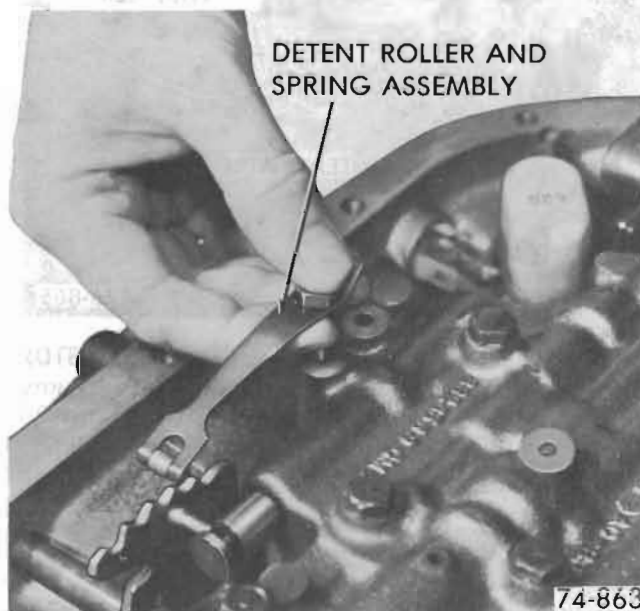

Figure 76-276
5. Remove guide pins and install detent roller and spring assembly and remaining bolts. See Figure 76-276.